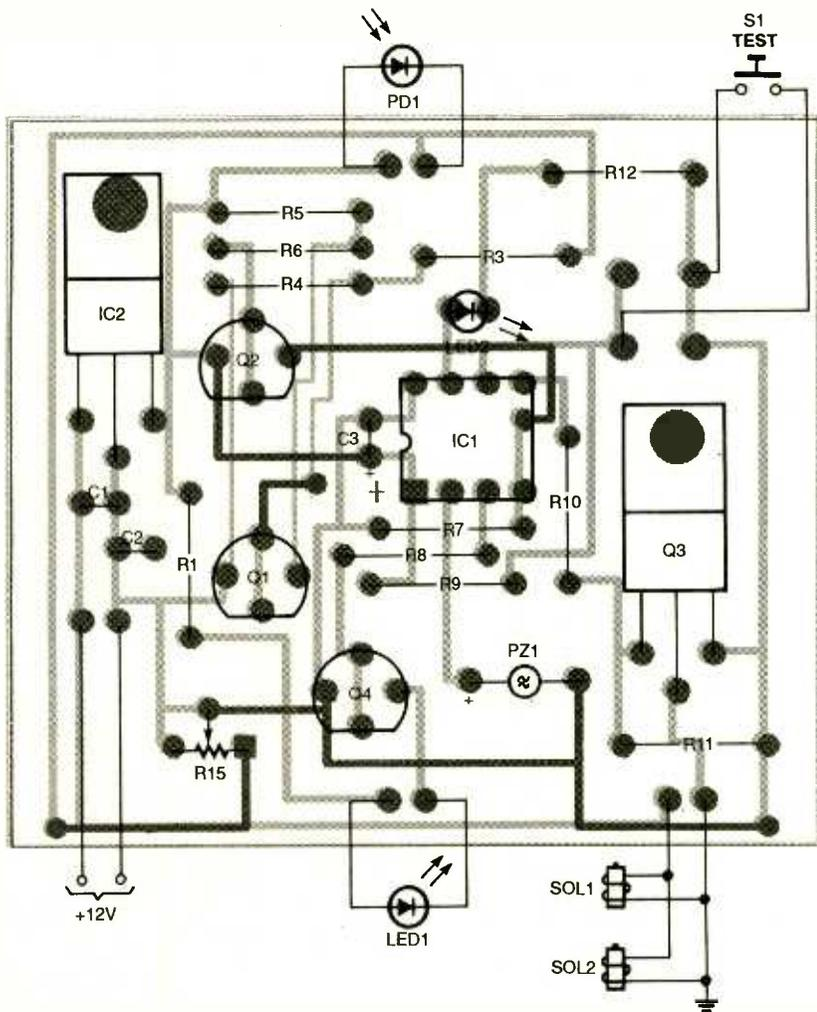

Fig. 6. Use the parts placement diagram above as a reference for constructing the Electronic Mouse Trap. Make sure to observe capacitor polarity.
**Construction.** The circuit is simple enough to hand-wire. Whether you use a printed circuit board or do hand-wiring, I strongly suggest using a socket for the PIC. See Fig. 6 for the parts placement. All the electronic parts (except for LED1, PD1, D1, and D2) are mounted to the circuit board. Be careful when you handle the PIC and Q3. These parts are more static sensitive than the rest. Before applying power to your board, double-check that all the parts are oriented in the proper direction; that no solder bridges, cold joints, or missing solder joints are present; and that a short-circuit test has been performed across the power supply.